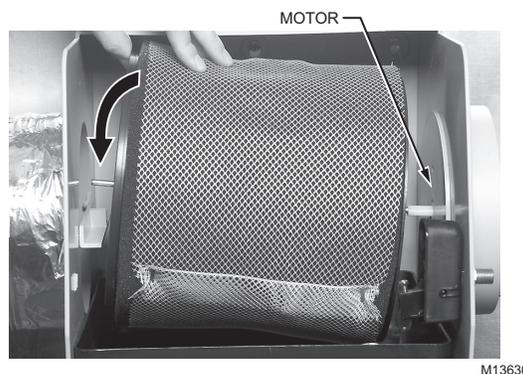

Fig. 29. Installing Humidifier Drum.
10. Install Humidifier Drum by inserting motor coupling end first, then snapping it into the bearing. See Fig. 29.